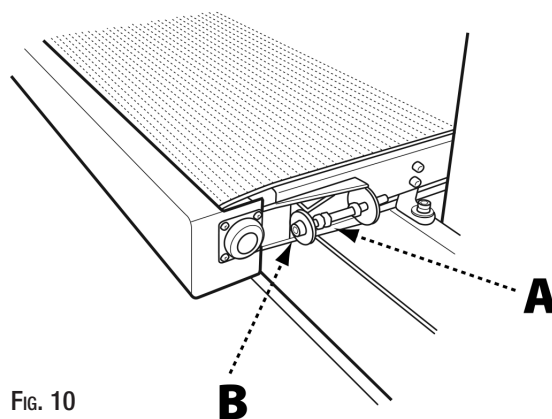

Fig. 10
2. Release tension on the feed belt by backing off the locking nuts (A) on the feed belt adjustment bolts (Fig. 10) and then tightening the feed belt adjustment bolts (B) until they are loose enough to remove the feed belt assembly.